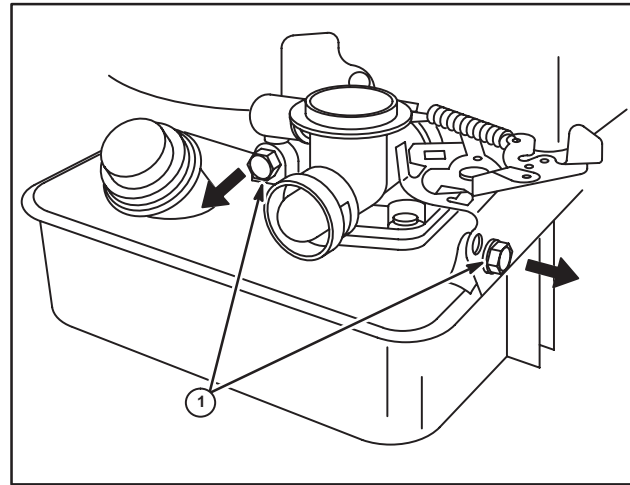

Fig. 1
Remove Carburetor and Tank Assembly (Figs. 1 & 2)
1. Remove fuel tank mounting bolts (1), Fig. 1.
4. Install and tighten mounting screws securely, Fig. 1.